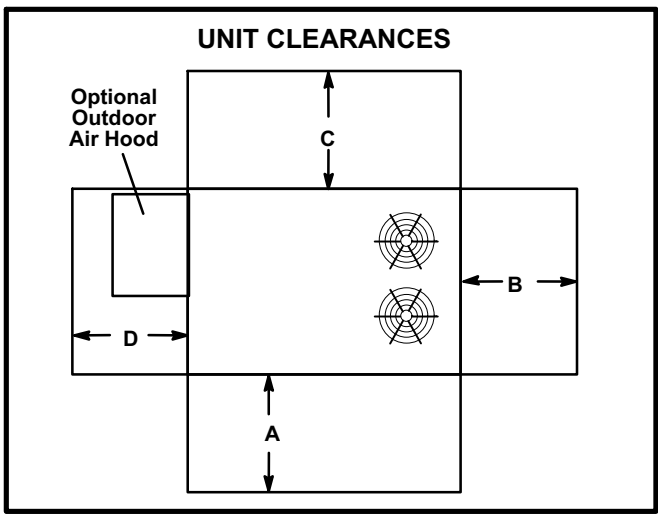

FIGURE 1
The KHC unit is ETL/CSA certified for outdoor installations only at the clearances to combustible materials listed on unit nameplate and in figure 1.
The KHC unit is ETL/CSA certified as a heat pump with cooling and with or without auxiliary electric heat for non-residential use only at the clearances to combustible materials as listed on the unit nameplate and in figure 1.
- 2- Specified installation clearances must be maintained when installing units. Refer to figure 1.